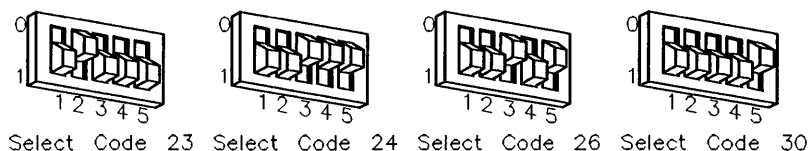

Figure 10-6.
3. Set these switches to one of the four select codes given in Figure 10-6, unless you have used them elsewhere. Refer to the installation note that came with the interface if you need additional switch settings.